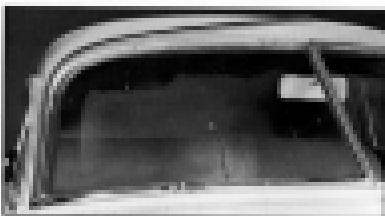

Fig. 9. Removing Windshield Upper Revealed Molding
- Remove upper windshield reveal molding as shown in Fig. 9 by prying DOWNWARD toward glass until released from its retainer.